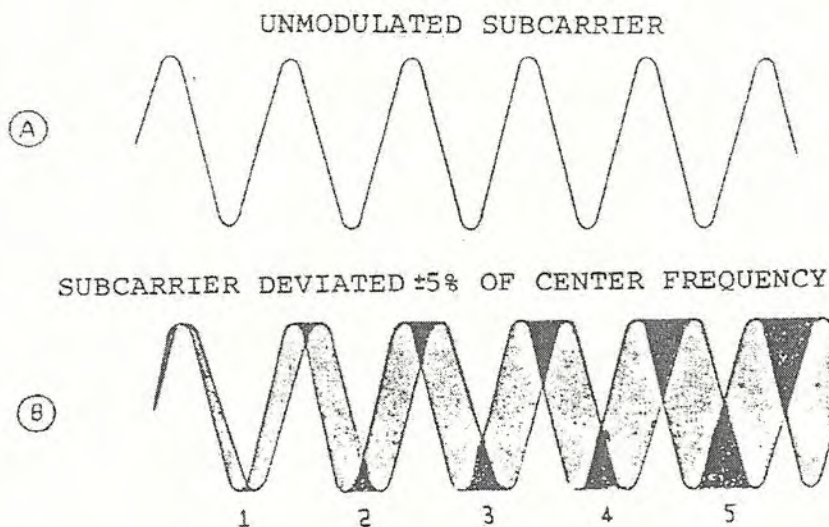

Figure 5-7
Mixed systems: Measure the output level at the Telco output barrier strip terminals on the Telco Out/Subcarrier In module at the appropriate Terminal. Zero dBm should be observed. Using a calibrated oscilloscope, measure the voltage at the subcarrier output BNC connector on the Telco In/Subcarrier Out Interface module at the other Terminal. 1.5 volts peak-to-peak should be observed. The OUTPUT potentiometer above the BNC connector should be adjusted if necessary to meet this requirement. The waveform observed should conform to Figure 5-7. Adjust R10 (Send Level Adjust) on the front of the Modem II module if necessary to meet this requirement.
4. Disconnect the analyzer and attach an oscilloscope to SUBCARR OUT J3. To understand this adjustment, refer to Figure 5.7 in the Modem section for representative waveforms. Adjust the oscilloscope to display about six periods of the unmodulated subcarrier as shown in (A). Using the modem Send Level Adjust (R10), increase Subcarrier modulation until the fifth crossover occurs midway as shown in (B).
4. Disconnect the analyzer and attach an oscilloscope to GEN OUT (J3). To understand this adjustment, see Figure 5-7 in the Modem II subsection for representative waveforms. Adjust the oscilloscope to display about six periods of the unmodulated subcarrier as shown in (A). Using the modem Send Level Adjust R10, increase subcarrier modulation until the fifth crossover occurs midway as shown in (B).